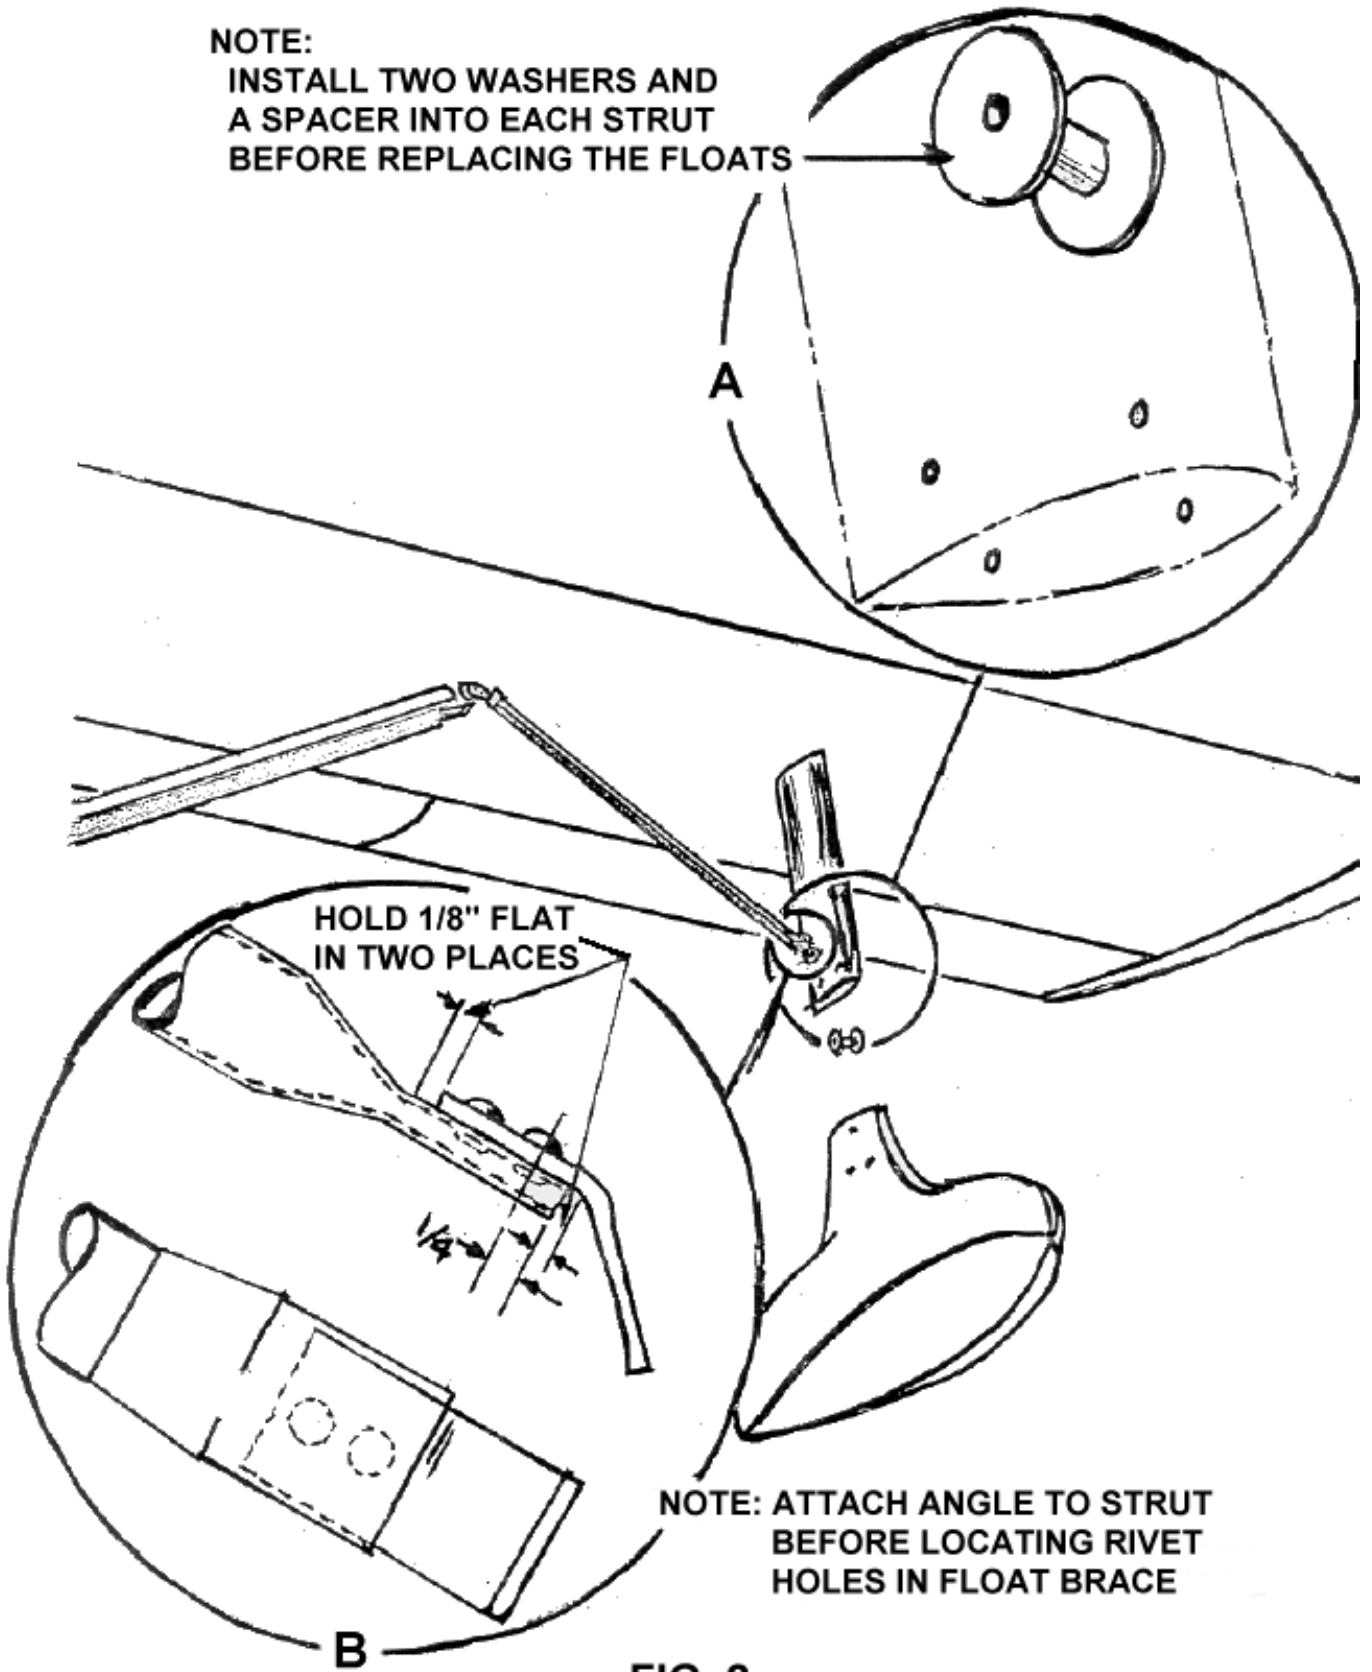

FIG. 2
7. Install Float Strut Brace Assembly 17W22013-1L, Spacer 17W22011-1 and Lug 17W22010-1 as follows on the left wing referring to Figure 2.
- c. Reinstall wing float, first placing Spacer 17W22011-1 and two Washers 17W2201L-1 over spacer in upper attaching hole in strut as shown on Figure 2 (a).
- d. Put Lug 17W22010-1 in place as shown. Using pilot holes in lug as guides drill through lug at end of strut with a #20 (.161) drill first being sure that there is at least 1/8 inch flat at the two locations shown on Figure 2 (b). Attach lug to strut with two AN441-5-7P rivets.